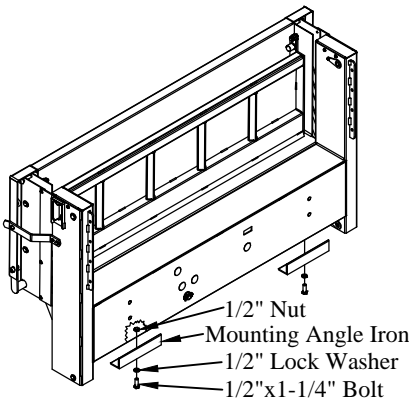

Figure 20: Mounting angle iron location.
1. **Install** the two (2) mounting angle irons to the bottom of the liftgate (Figure 20).